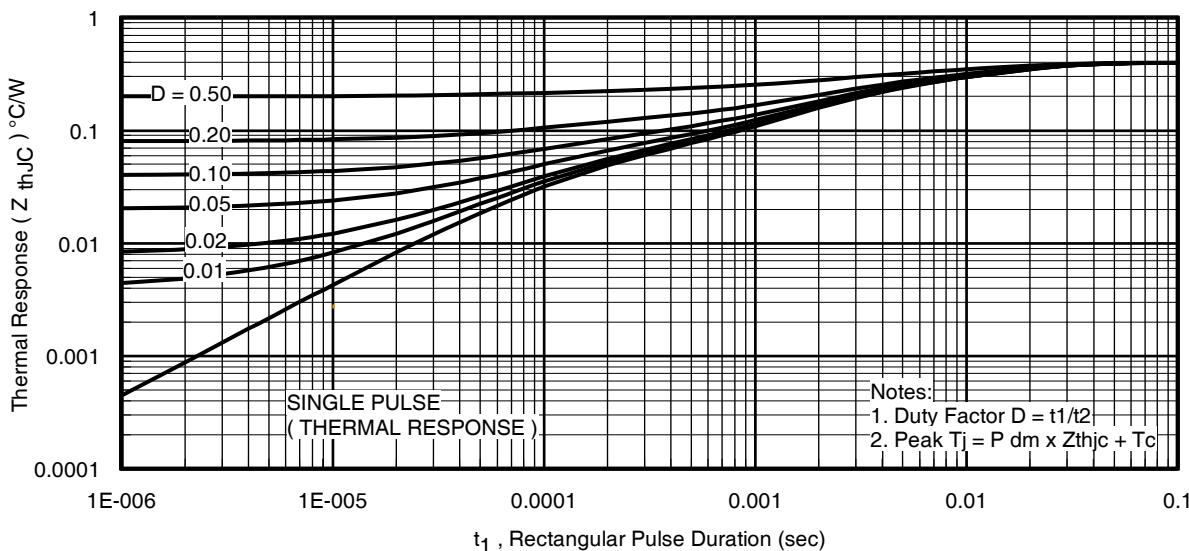

Fig 14. Maximum Effective Transient Thermal Impedance, Junction-to-Case
- Z_{thJC}(D, t_{av}) = Transient thermal resistance, see Figures 14)